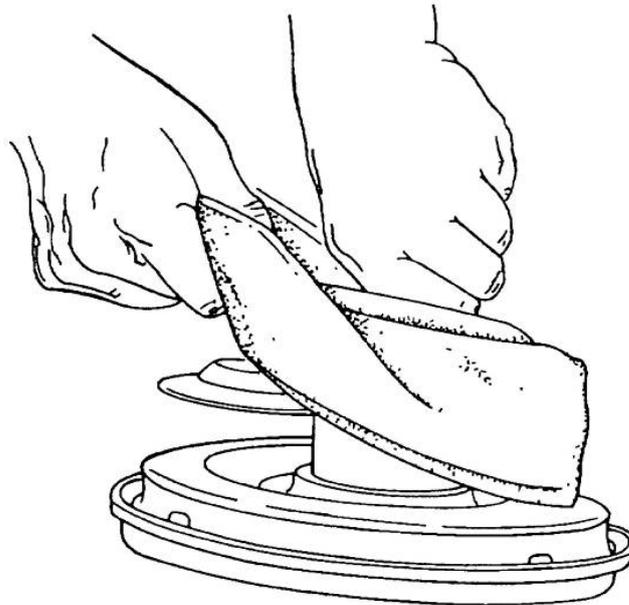

Figure 286 Removal of the Rear Diaphragm
- l.** Push on the input rod and plunger (item 24) to remove the valve body (item 15) and diaphragm assemblies (items 16, 17, 27, 28 and 29) from the rear cover (item 25).
- m.** Remove the circlip (item 14) from the plunger and withdraw the input rod and plunger assembly from the valve body. Discard both components.
- n.** Hold the valve body assembly firmly on a bench, with the front pressure plate (item 16) facing downward. Pull the rear diaphragm (item 27) upward to remove it from the valve body (Figure 286).